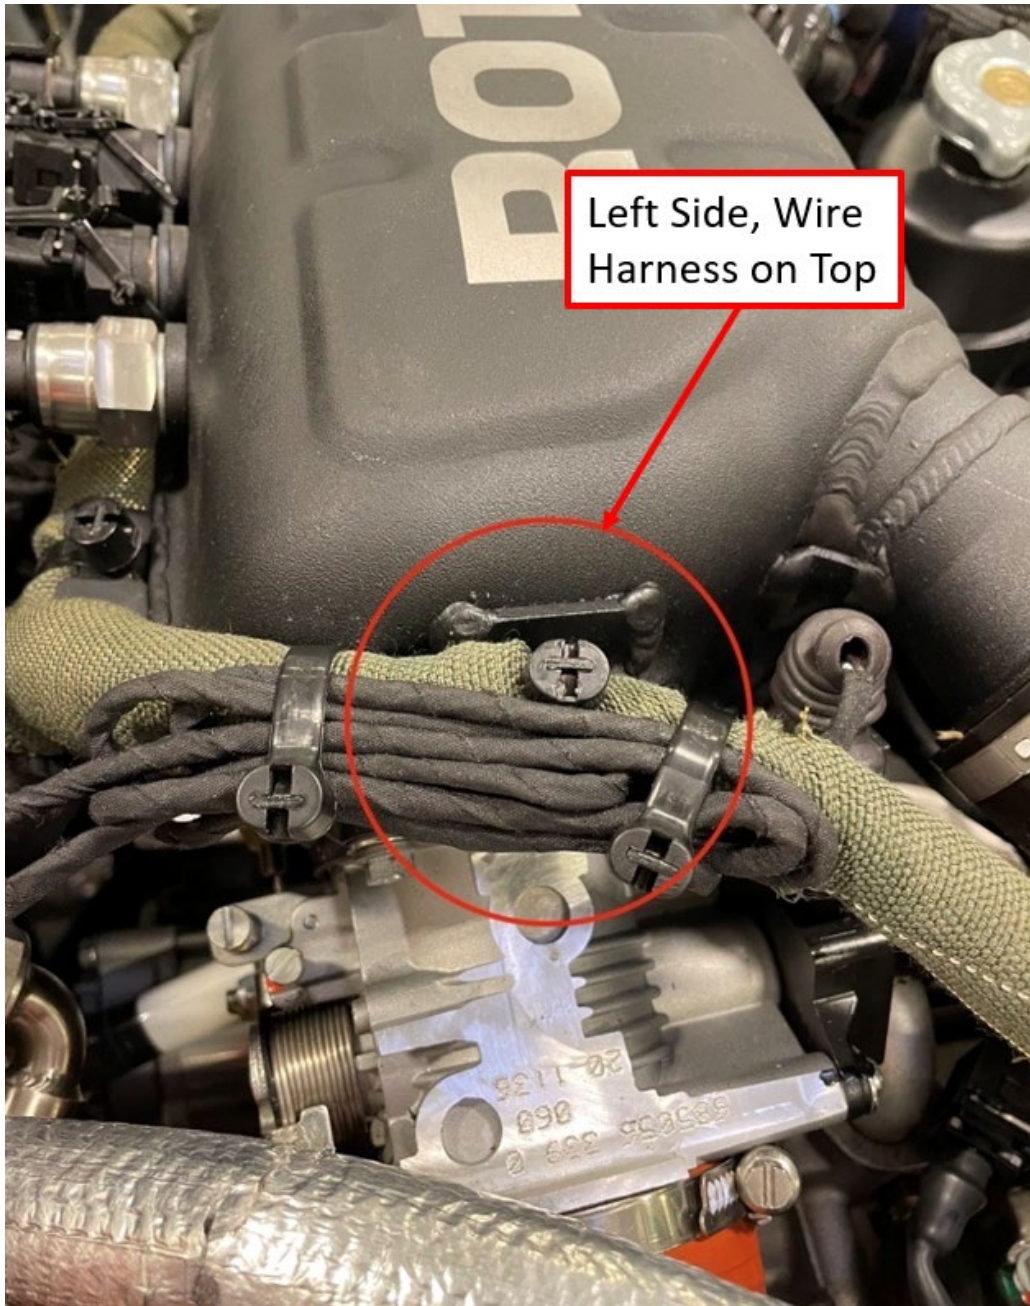

Figure 4 Left Side Kevlar on Top
9. At the left side of the engine, position the wire harness on top of the cable tie mount and secure with one (1) cable tie.
- a. See Figure 4